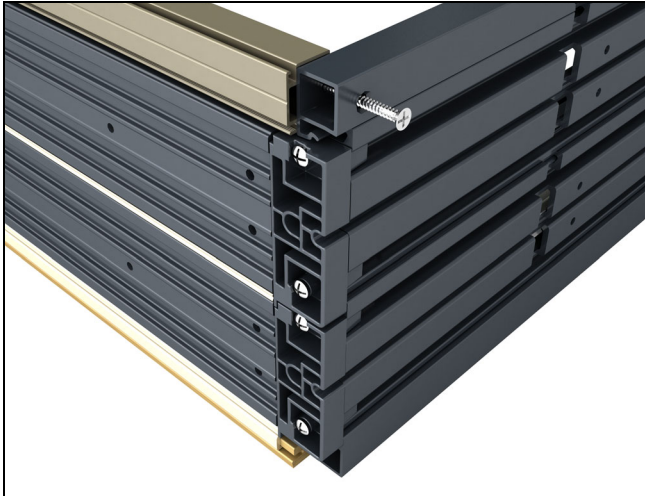

Figure 126
7. Fasten sill liner to frame cladding using #8 x 1 1/2" flat head screws. See figure 126. *Note: Ensure hole is lined up with screw boss in frame cladding.*